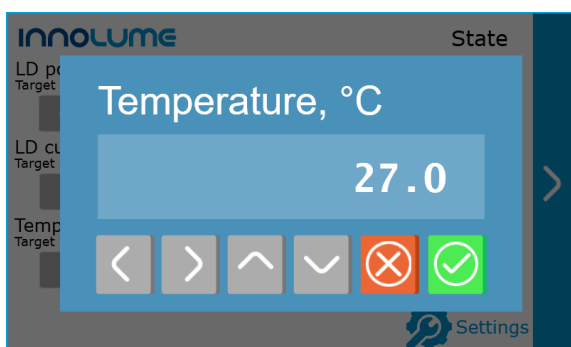

Figure 5 – Temperature setting
8. Tap on temperature value to set the laser diode temperature (fig. 5). Use the left and right arrows to select the digit to change, use the up and down arrows to change the value. Press  button to save the changes and exit menu. Press  button to exit menu without changes.